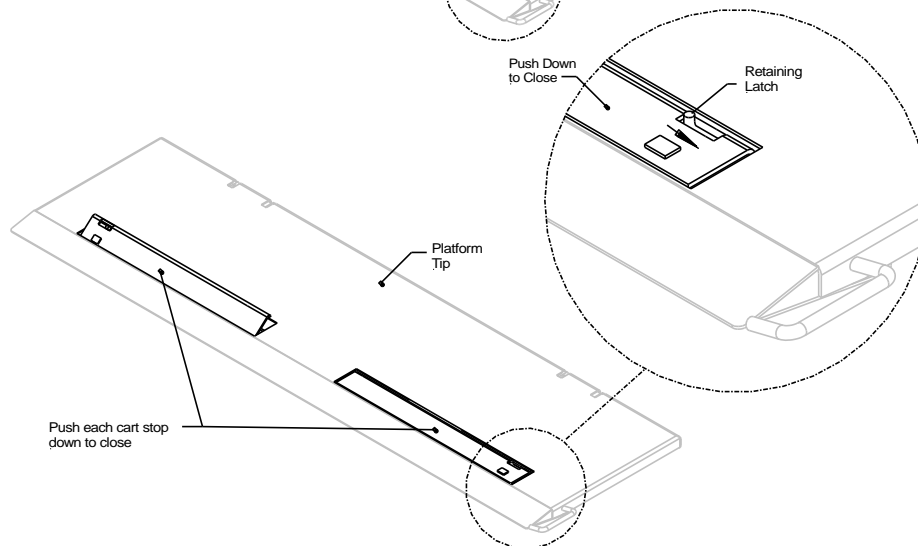

Fig.19
2. To close the cart stop, push and hold each cart stop down in close position and lock each cart stop with the retaining latch, **Fig.19**.